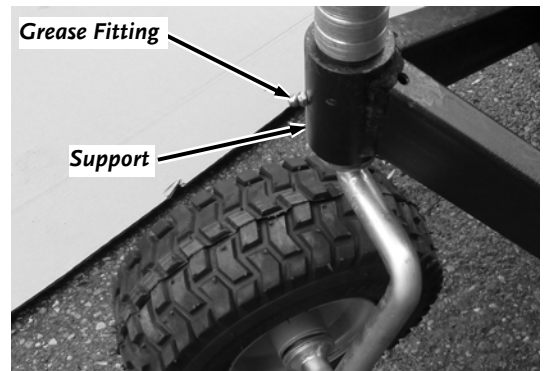

Figure 24
1. Apply a quality general-purpose lithium grease with a hand-pumped grease gun to each of the Support Grease Fitting (**Figure 24**).